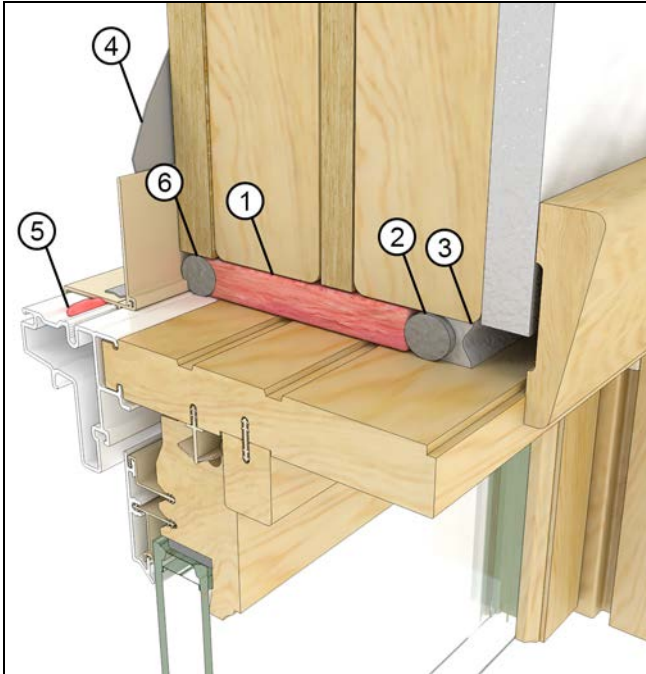

Figure 58
1. Loose Fill Fiberglass Insulation. Insulate the RO cavity with loose fill fiberglass insulation. Install a backer rod and sealant at the interior plane of the RO to create a continuous air seal. See Figure 58.